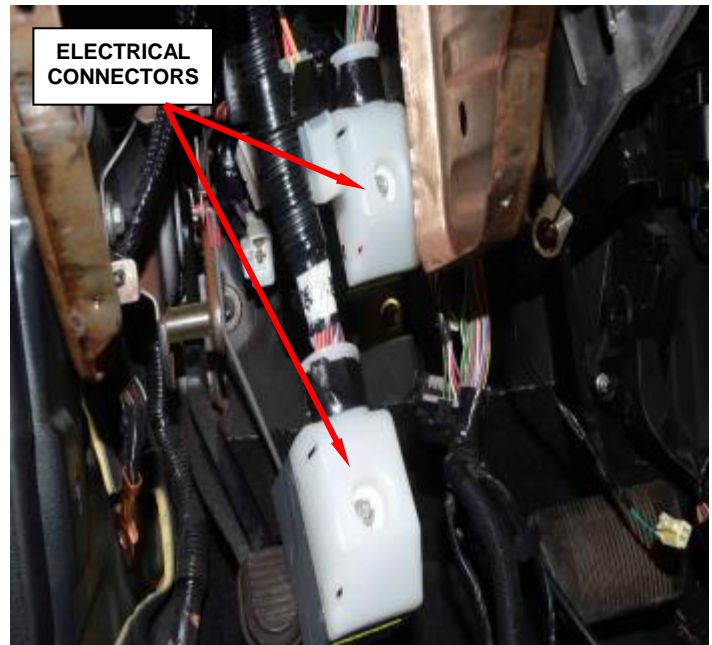

Figure 58 – Electrical Connectors
19. Loosen the screws and disconnect the electrical connectors (Figure 58).